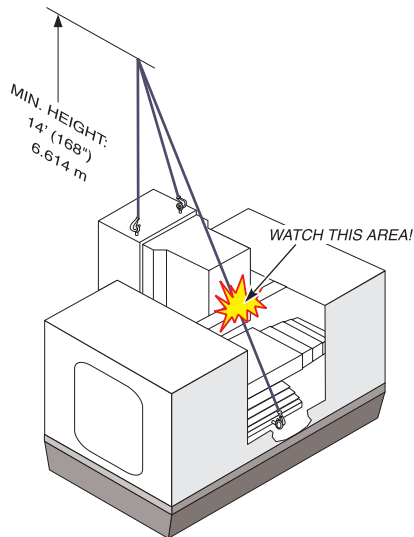

Fig. 12.26-5 VF-0/1/2 lifting positions.
5. Attach the lifting chain and hooks to the lifting points as shown in Figures 12.26-5 and 12.26-6, ensuring that the chain does not come in contact with the top door beams or rub against any part of the machine's sheet metal enclosure.